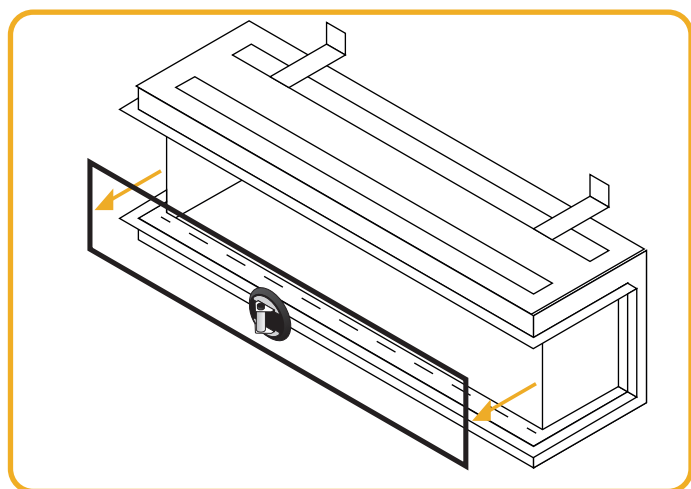

Figure.9.4 | Carefully remove the glass
- Carefully remove the front glass. See Figure 9.4. For bigger models like the **150e**, **180e** a suction cup is included. It is recommended to do remove the front glass with two people.